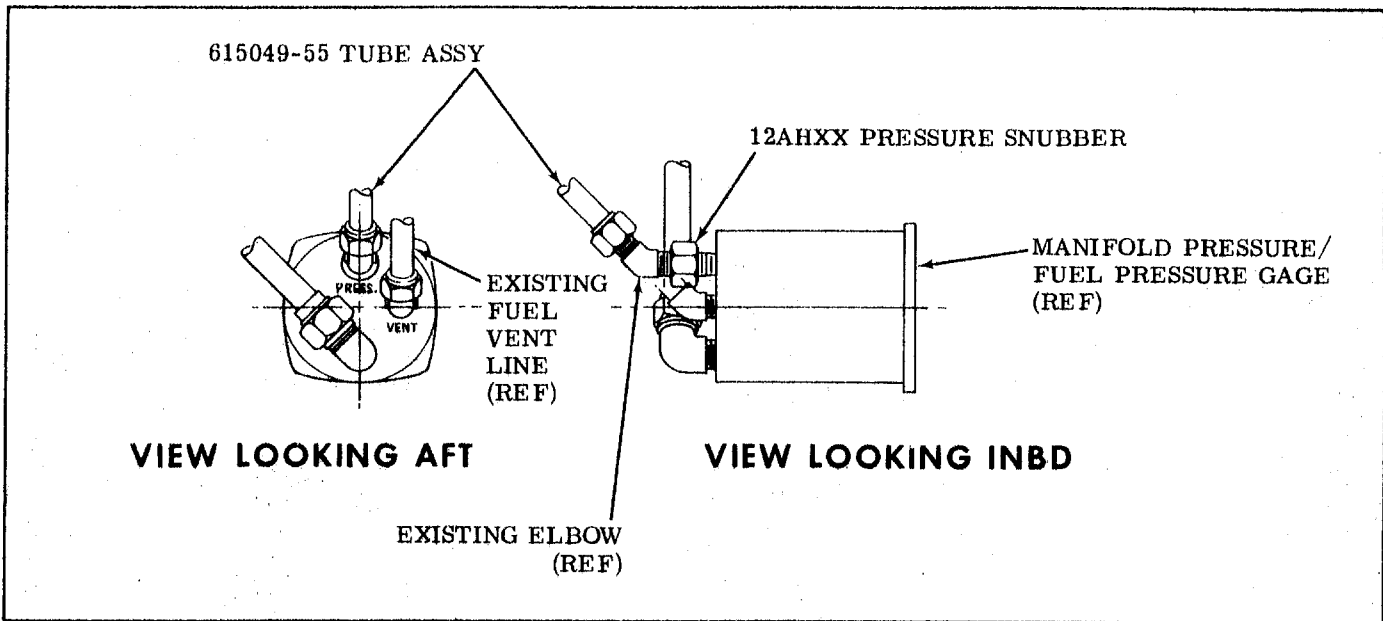

Figure 1.
3. Apply teflon tape to threads of 12AHXX pressure snubber and install snubber in pressure port of manifold pressure/fuel pressure gage (see Figure 1.).
4. Apply teflon tape to threads of existing elbow, removed in step 2., and install elbow and 615049-55 tube assembly (see Figure 1.).